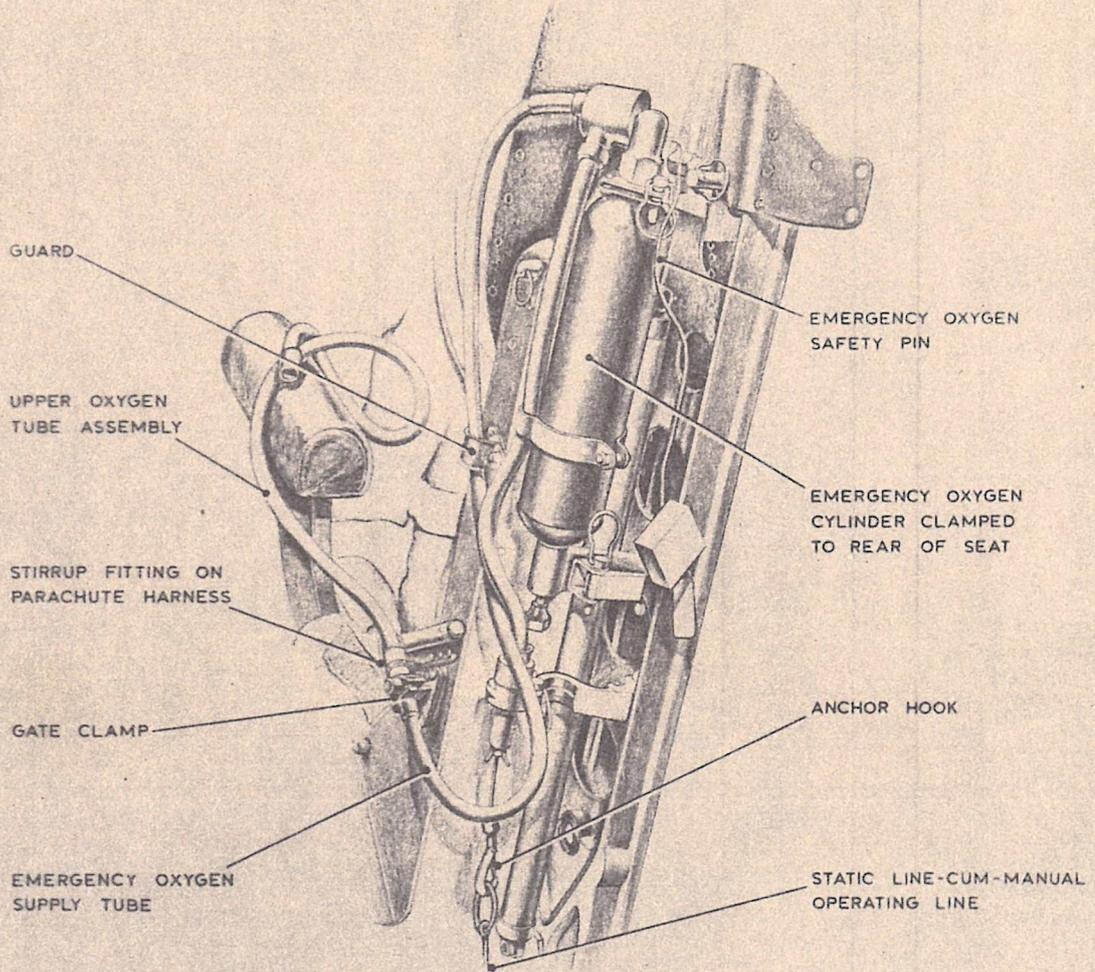

Fig. 1. Arrangement of emergency oxygen supply
14. When installing the equipment in the seat adopt the following procedure; refer to fig. 1, 2 and 3 for detail as necessary.